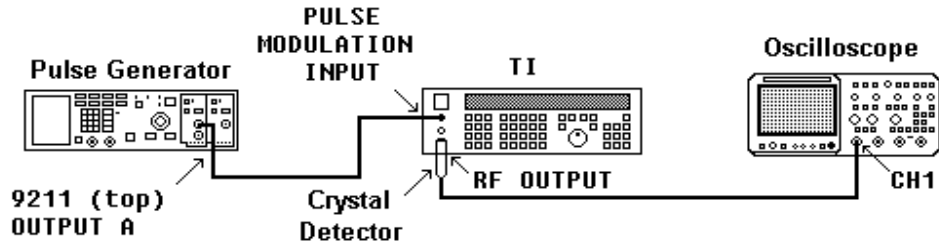

Figure 2. Pulse modulation risetime hookup.
- (8) Set TI **FUNCTION-RF ON** to off (red light extinguished).
- (9) Connect equipment as shown in figure 2.